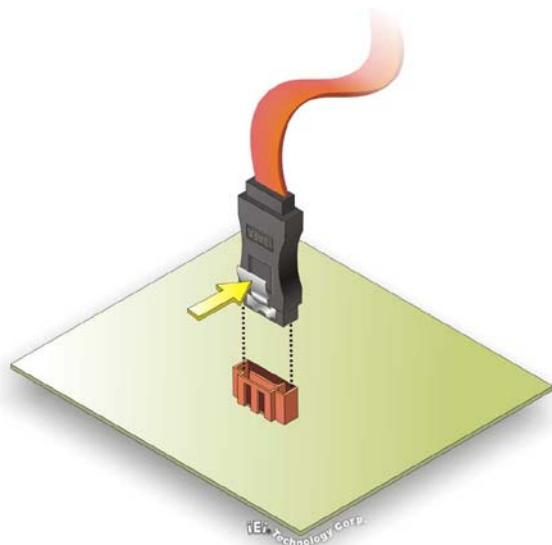

Figure 4-4: SATA Drive Cable Connection
Step 2: Insert the cable connector. Press the clip on the connector at the end of the SATA cable and insert the cable connector into the on-board SATA drive connector. See **Figure 4-4**.